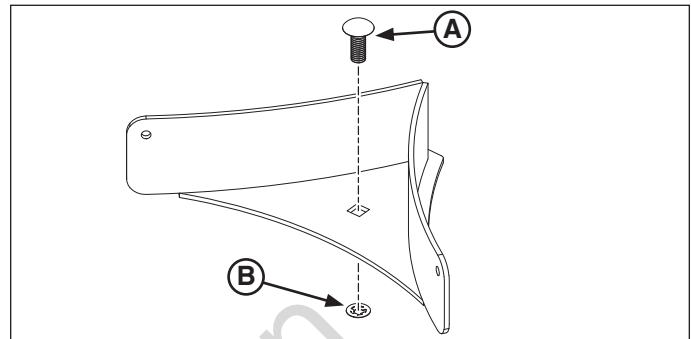

Figure 1. Assembling the Baffles
2. Assemble both baffles and the blockoff plate with 3/8" carriage bolts (A, Figure 1) and retaining washers (B).